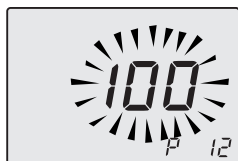

Fig. 7.47
- Scroll the various parameters using keys 15 or 16 until the letters **P12** are displayed on the LCD display and the value of the parameter (100=Inovia 25S ERP), indicating that "parameter 12" (Fig. 7.47) has been activated.